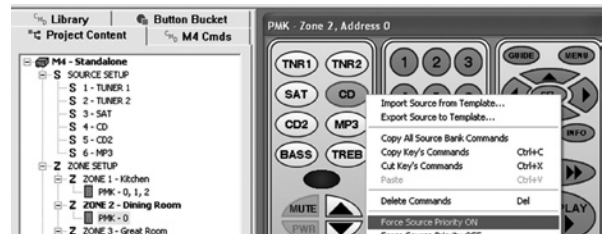

Figure 17 Forcing Source Priority ON
2. Right-click the desired zone (i.e. **Zone 2** under **Project Content**) and left-click **"Force Zone Priority On"** and **"Yes"** in the pop-ups. Refer to Figure 17. All function and numeric keys for all sources in that zone, where applicable, will now have all their "Priority On" options checked.